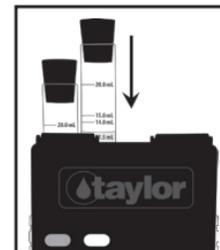

Fig. 1
7. Place the cell in the right position at the top of the comparator, so that the cell markings are out of view. (Fig. 1)